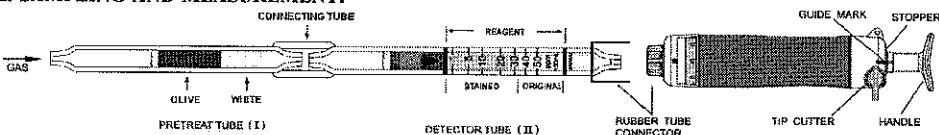

Fig.1
- ① Break both ends of the detector tube (II) and pretreat tube (I), and connect each end of the detector tube and pretreat tube with connecting tube as shown in Fig.1.
- ② Insert the detector tube into the aspirating pump securely as shown in Fig.1. (Arrow mark shall point to the pump.)
- ③ Align the guide marks on the shaft and stopper of the aspirating pump.
- ④ Pull pump handle at a full stroke until it locks and wait for 1.5 minutes or until the completion of sampling is confirmed with the flow indicator of the pump. (See descriptions about the flow indicator in the instruction manual of the pump.)
- ⑤ On completion of sampling, read the scale at the maximum point of the stained layer.
- ① Temperature: Correct the tube reading by following temperature correction table.